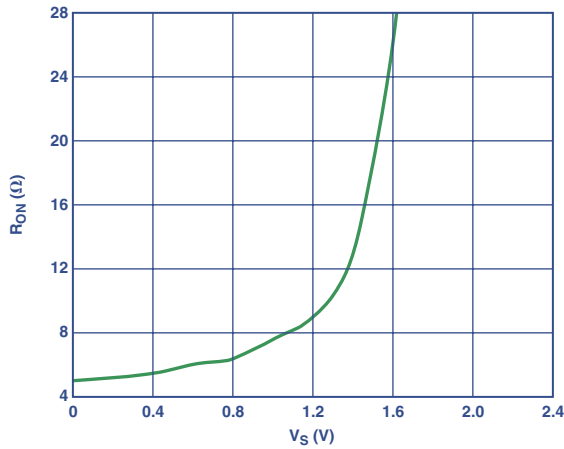

Figure 4. On resistance vs. source voltage.
**A:** Signal loss is essentially determined by the attenuation introduced by switch resistance in the *on* condition,  $R_{on}$ , in series with the source-plus-load resistance—measured at the lower frequencies of operation. Figure 4 shows a typical profile of *on*-resistance as a function of source voltage for an N-channel MOSFET device.